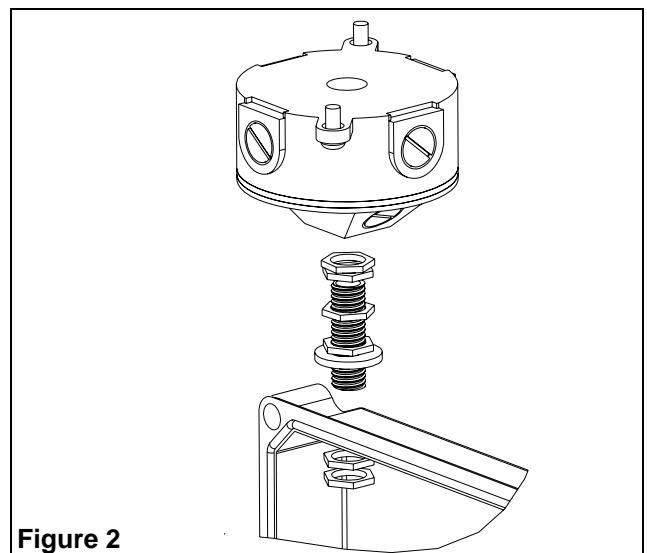

Figure 2
3. Install the canopy on the nipple by inserting the nipple through the center hole of the canopy (see Fig.2). Install two nuts on the upper end of the nipple, inside the canopy, and lock them together. Thread another nut from the other side in order to hold the nipple to the canopy. Install the fourth nut onto the nipple. Install the foam gasket and the last two nuts and tighten the whole assembly.